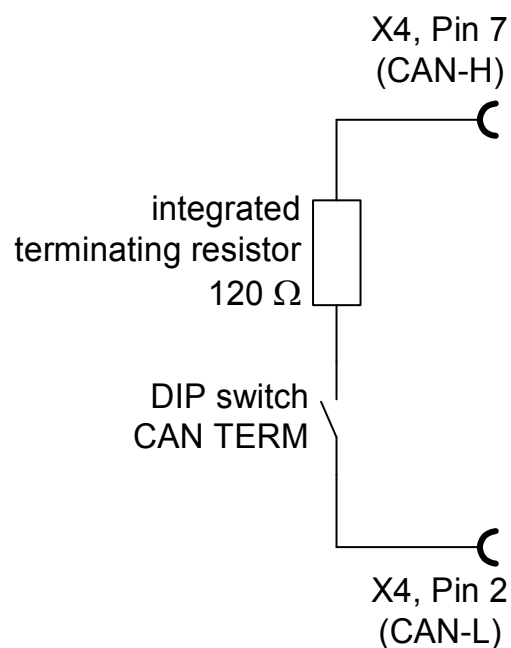

Figure 26: Integrated CAN terminating resistor
- ❖ On both ends of the CAN bus cable must be exactly one terminating resistor of 120 Ω \pm 5 %. All ARS 2100 SEseries servo drives are equipped with an integrated terminating resistor that can be activated/deactivated with the aid of the DIP switch “CAN TERM” that is located on the front panel (see *Figure 8* and *Figure 26*)